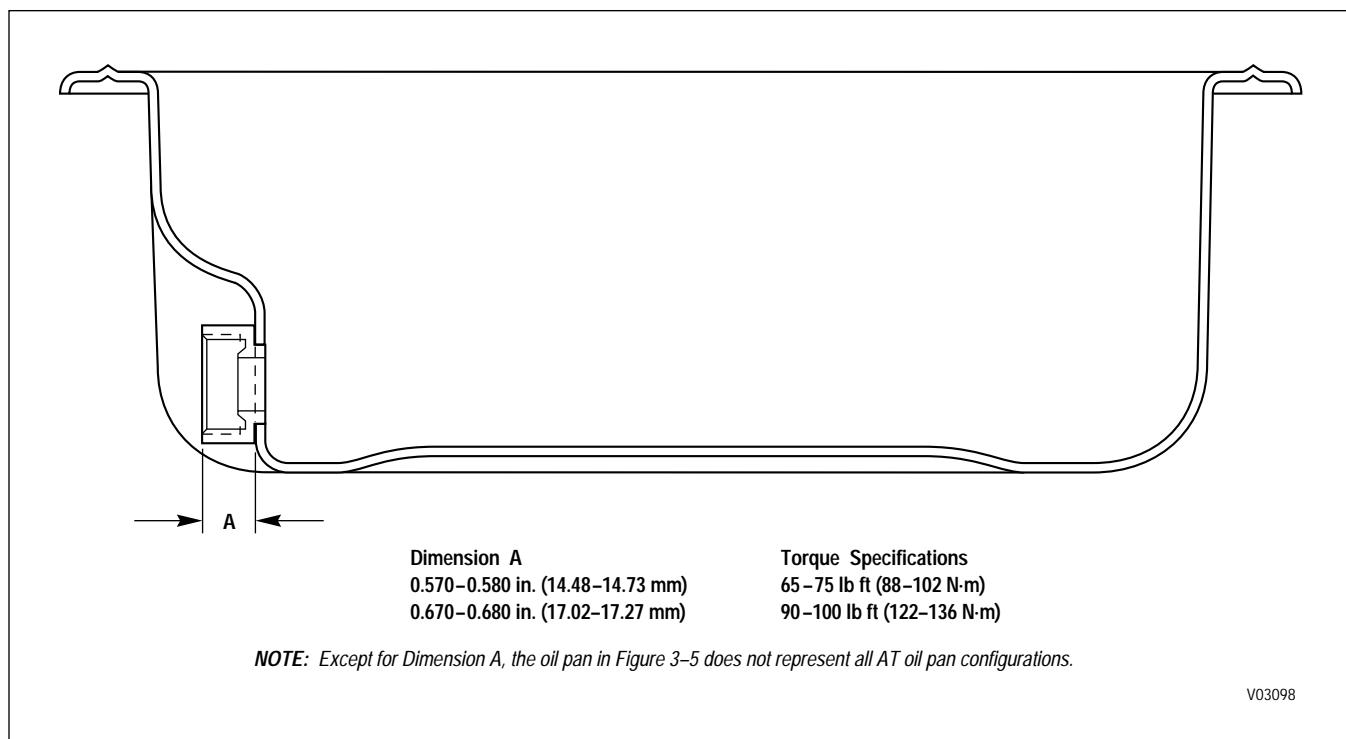

Figure 3-5. Measuring the Length of Oil Pan Boss to Identify Torque Requirements
(4) Place the pan gasket onto the oil pan. **Do not use** any substance as a gasket retainer.
(5) Install the oil pan. Guide the pan and gasket carefully into place. Guard against dirt or foreign material entering the pan. Retain the pan to the housing with **four**  $5/16$ -18 washer-head screws, installed **by hand** into the corners of the pan.
(6) Install the remaining seventeen washer-head screws **by hand**, carefully threading each through the gasket and into the transmission. Bottom all of the screws before tightening any of them.
(7) Evenly tighten all twenty-one screws to 10–15 lb ft (14–20 N·m). Check gasket fit while the screws are being tightened.
(8) Install the filler tube at the side of the pan.
(9) Check Dimension A (Figure 3-5) to determine what oil pan boss is present. If Dimension A is 0.570–0.580 inch (14.48–14.73 mm), then tighten the tube fitting to 65–75 lb ft (88–102 N·m); if Dimension A is 0.670–0.680 inch (17.02–17.27 mm), then tighten the tube fitting to 90–100 lb ft (122–136 N·m).
(10) Install the drain plug and washer. Tighten the plug to 15–20 lb ft (20–27 N·m).
(11) Replace the external auxiliary filter element (cooler-out line), if present. Refer to Paragraph 3-9d.
(12) Refill the transmission with fluid.